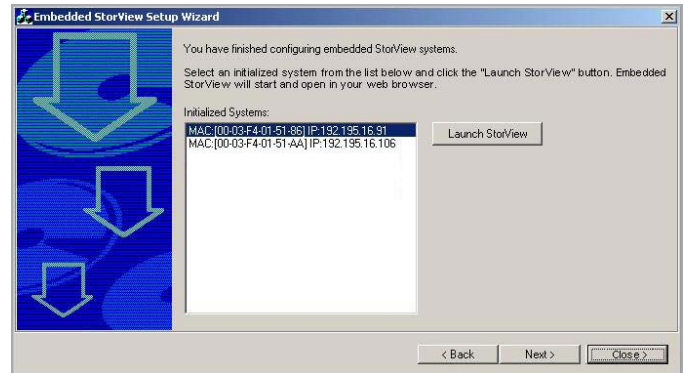

Fig. 66 - Embedded StorView Setup Wizard - Initialize Systems Screen
Once you have completed configuring all the Uninitialized Systems and have clicked the **Configure** button, the wizard will display a popup message indicating all systems have been configured. It will then re-scan for any Uninitialized Systems and if none are found, you will be taken to the Initialized Systems screen (Fig. 66).
7. Select the MAC address of the Initialized System you wish to start and click the **Launch** button (Fig. 66).